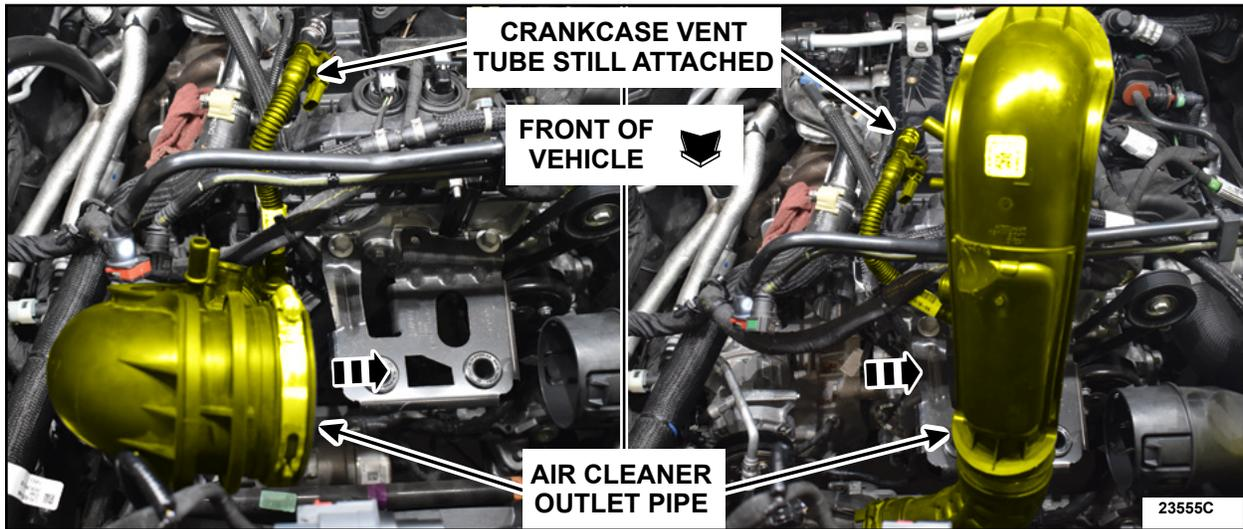

FIGURE 4
6. Position aside the air cleaner outlet pipe with the crankcase vent tube still attached. See Figure 4.